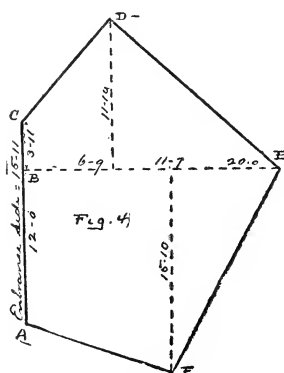

FIGURE 4.
When the floor is an irregular polygon, Fig. 4.
*Ex. 7.* How many yards of  $\frac{3}{4}$  plain Brussels (with and without allowance for matching) are required to cover a floor like Fig. 4, length of pattern 15"?